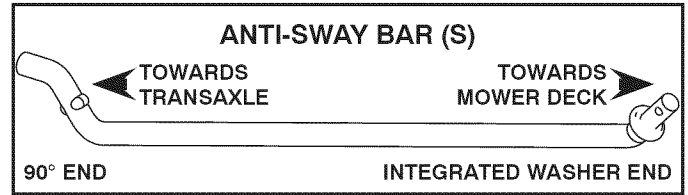

Fig. 29
5. INSTALL ANTI-SWAY BAR (S) (IF EQUIPPED) (See Fig. 29 - 31)